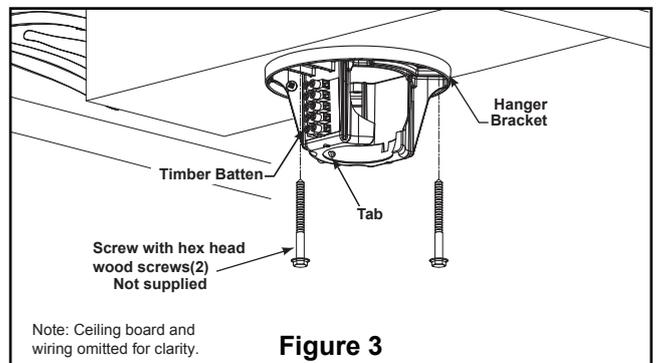

Figure 3
1. Drill a hole in the ceiling board and batten for wiring. Securely attach the hanger bracket to a timber batten or other structural support using appropriate fasteners. (Figure 3)